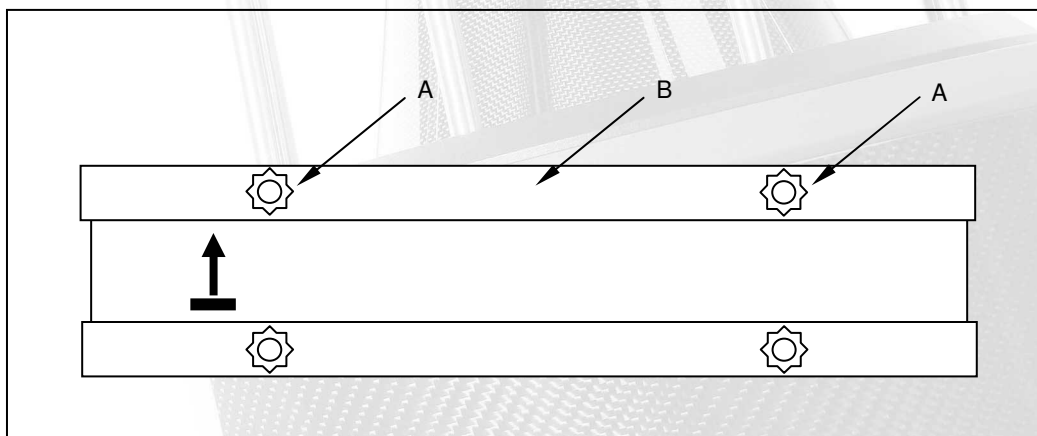

Figure 1. HRS 120 Shipping Carton
The HRS 120 is supplied with both loudspeakers packed inside one carton. This must be kept upright as shown in figure 1. Before opening the carton, please inspect it for damage. If you see any damage, please contact the supplying audio dealer immediately and provide them with a full description of the damage. Do not attempt to unpack the loudspeakers until you have spoken with the dealer and have been advised how to proceed.
1. Referring to figure 1, unscrew and remove the four securing screws A from the top cover of the carton B and then lift off the top cover. Do not remove the four screws from the carton lower tray at this point.